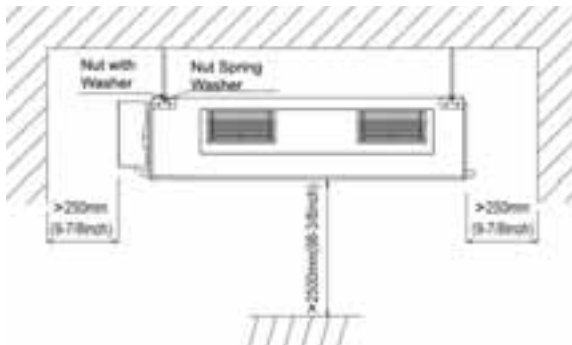

Fig. 3.1
- (1). Check the support structure to verify that it has sufficient load-carrying capacity to support the weight of the unit.
- (2). The air inlet and outlet of the unit should never be blocked so that the airflow can reach every corner of the room.
- (3). Leave service space around the unit as required in Fig. 3.1.